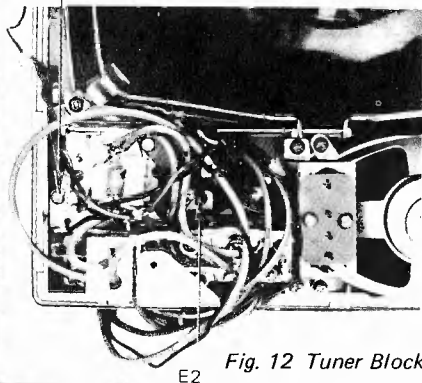

Fig. 12 Tuner Block Removal
5. Remove the two screws labeled E1-2 in Fig. 12.